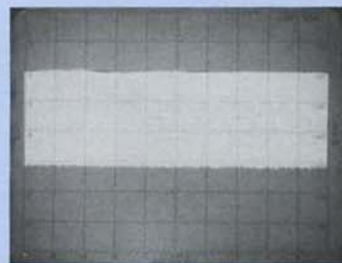

Figure 31.
- Set signal generator frequency at 2 GHz and slowly increase continually to 3 GHz. This will trace out the frequency response of the analyzer over this frequency range. See Figure 31. The frequency response of the analyzer is typically flat to ± 1 dB. (The amplitude output variation of the 8616A is typically ± 0.5 dB and this contributes to the observed frequency variation.)